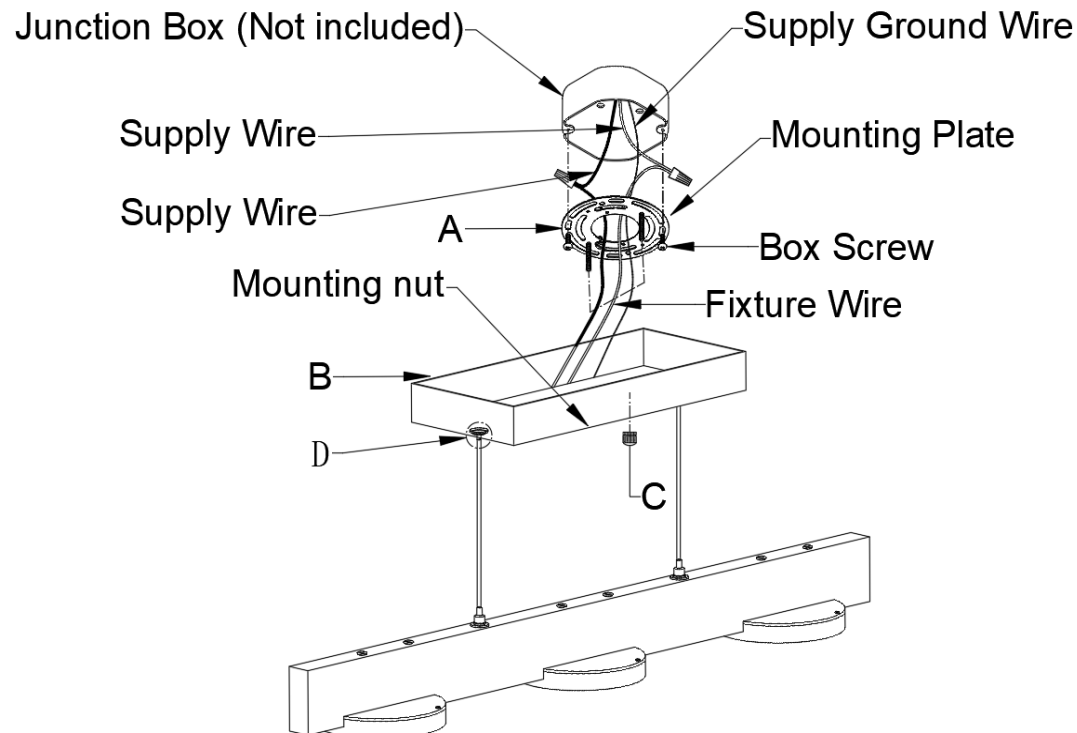

FIG.2
2. Attach the mounting plate(A) to the junction box using two junction box screws as shown. The side of the mounting plate marked "**GND**" must face out. **The junction box is not included.**
3. Follow wiring instructions carefully.(see fig.2)
4. Install housing (A) on the mounting plate(B) and secure it with mounting nut(C).
CONNECTING THE WIRES (Fig.2)